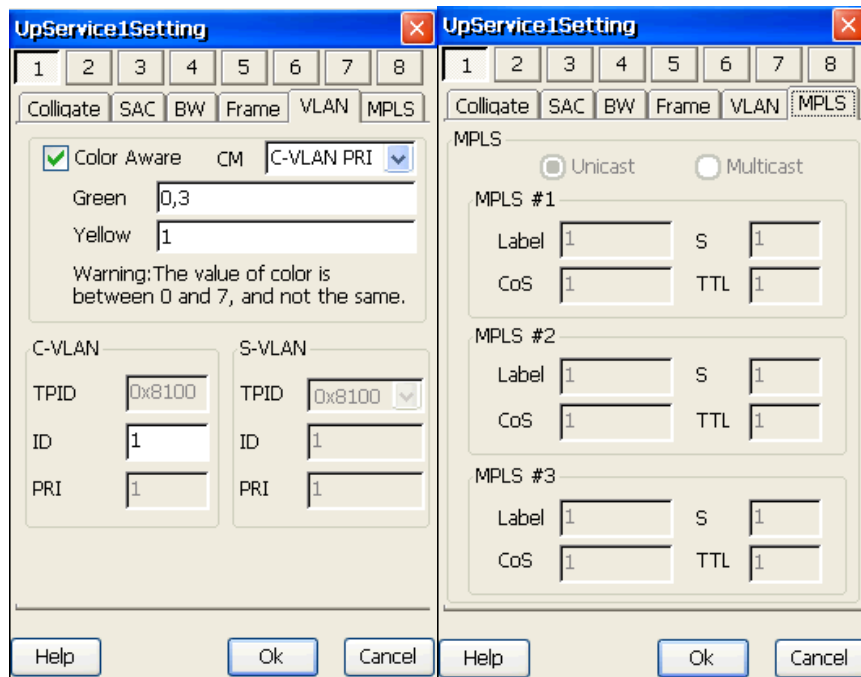

Figure 6.3.3 Up Service Setting
2. Click “UpSer. S.” button to set up service parameters. And Click “DownSer. S.” to set down service parameters. Figure 6.3.3 shows the up service parameters setting (down service parameters setting is similar with up).